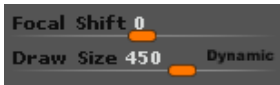

Figure 3-78 The value of the Draw Size slider set to 450
14. Set the value of the **Draw Size** slider to **450** by entering the value in the edit box or by moving the **Draw Size** slider toward right, refer to Figure 3-78.